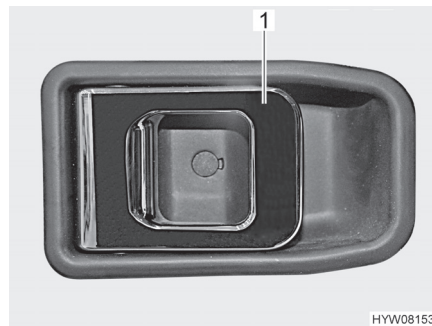

Fig. 54 Door lock (driver's door/conversion door, inside)
- Pull on the handle (Fig. 54,1). The door lock is unlatched or opened.
- Push the handle (Fig. 54,1). The door lock is locked.